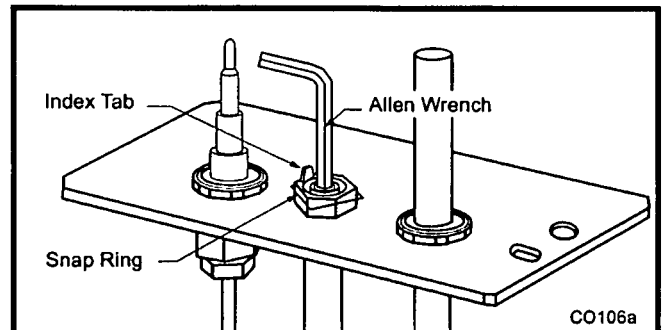

Fig. 55 Remove pilot orifice.
9. Remove pilot orifice with 5/32" Allen wrench. (Fig. 55)